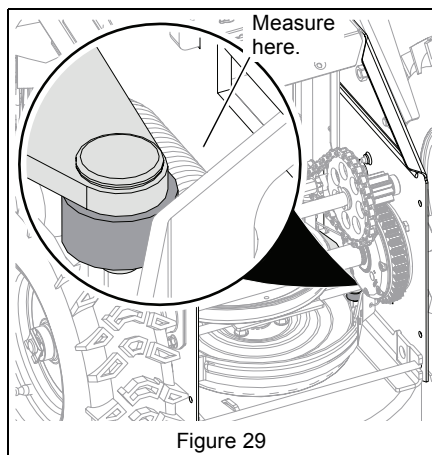

Figure 29
2. Engage attachment clutch and check the clearance between the frame and plastic roller on the lower end of the attachment idler arm. Roller should be 12.7 mm – 22.2 mm (1/2" – 7/8") from the frame. See Figure 29.